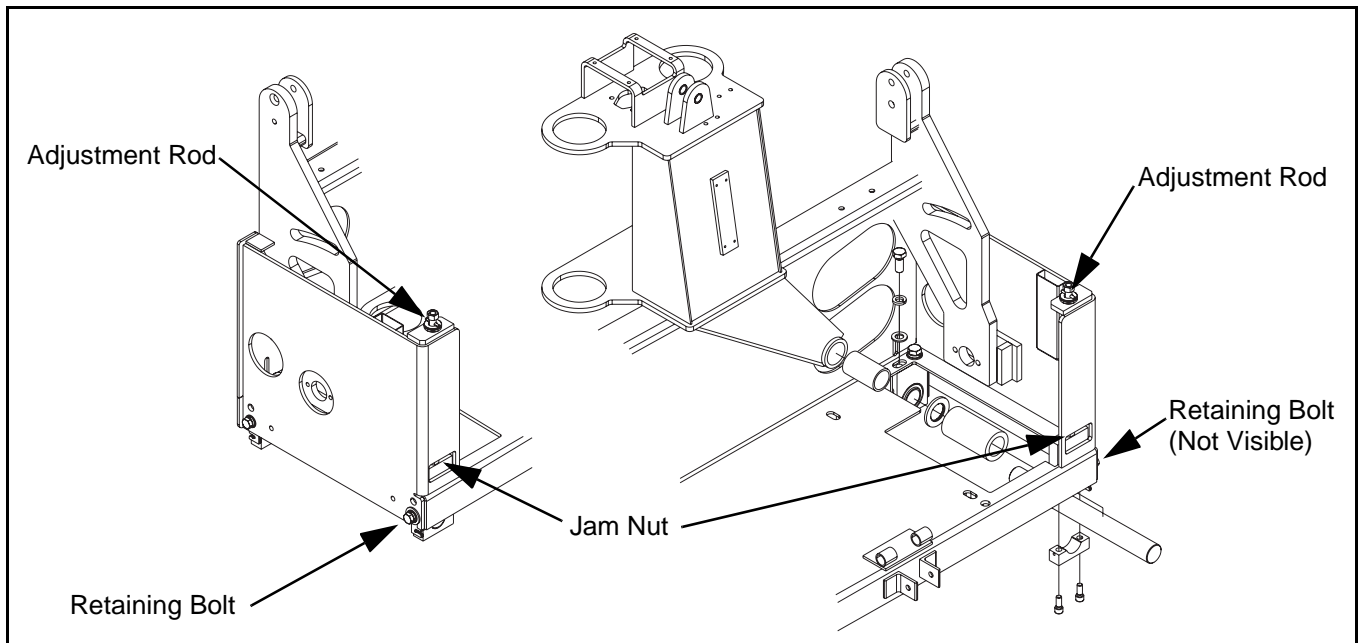

Figure 22 Adjusting Angle of Attack
- 1) To adjust this version of the independent attack angle, first loosen rear adjustment rod retaining bolts. (Figure 22)
- 4) Once the desired angle is obtained, re-tighten jam nuts and retaining bolts. (Figure 22)